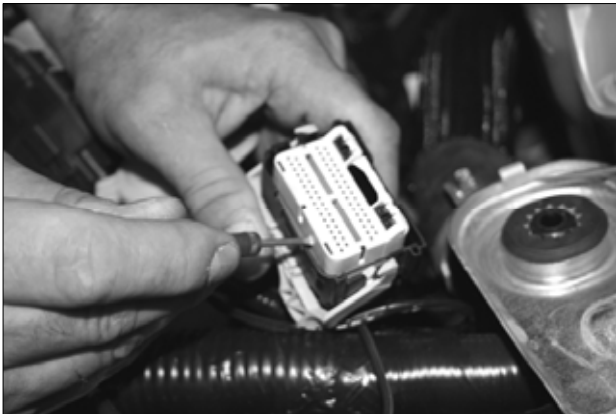

Figure 2
2. a) Remove the pin locking device as shown in figures 2 and 3. Also remove the wire support on the back of the connector (figure 5) by removing the tape and using a small screwdriver to lift the locking tabs.